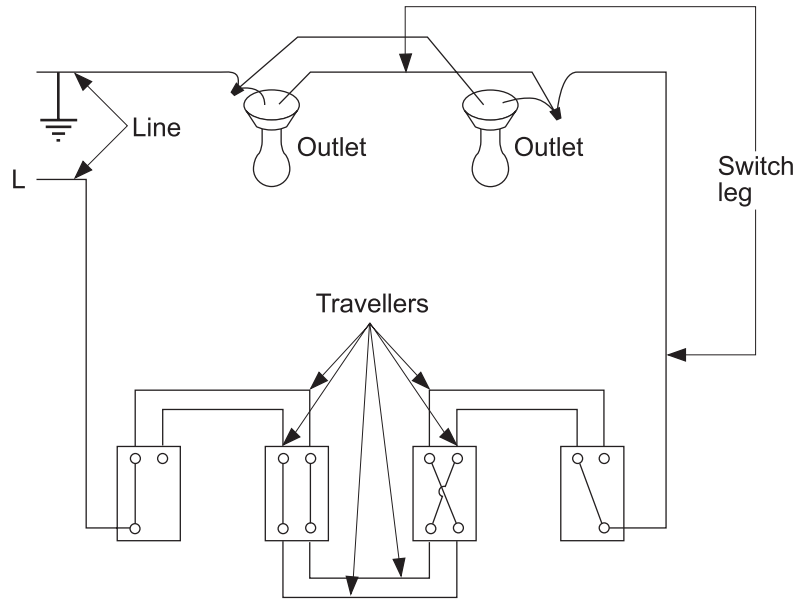

Figure 1
5. With the switch positions as shown in Figure 1 below, the lamps would be _____ .